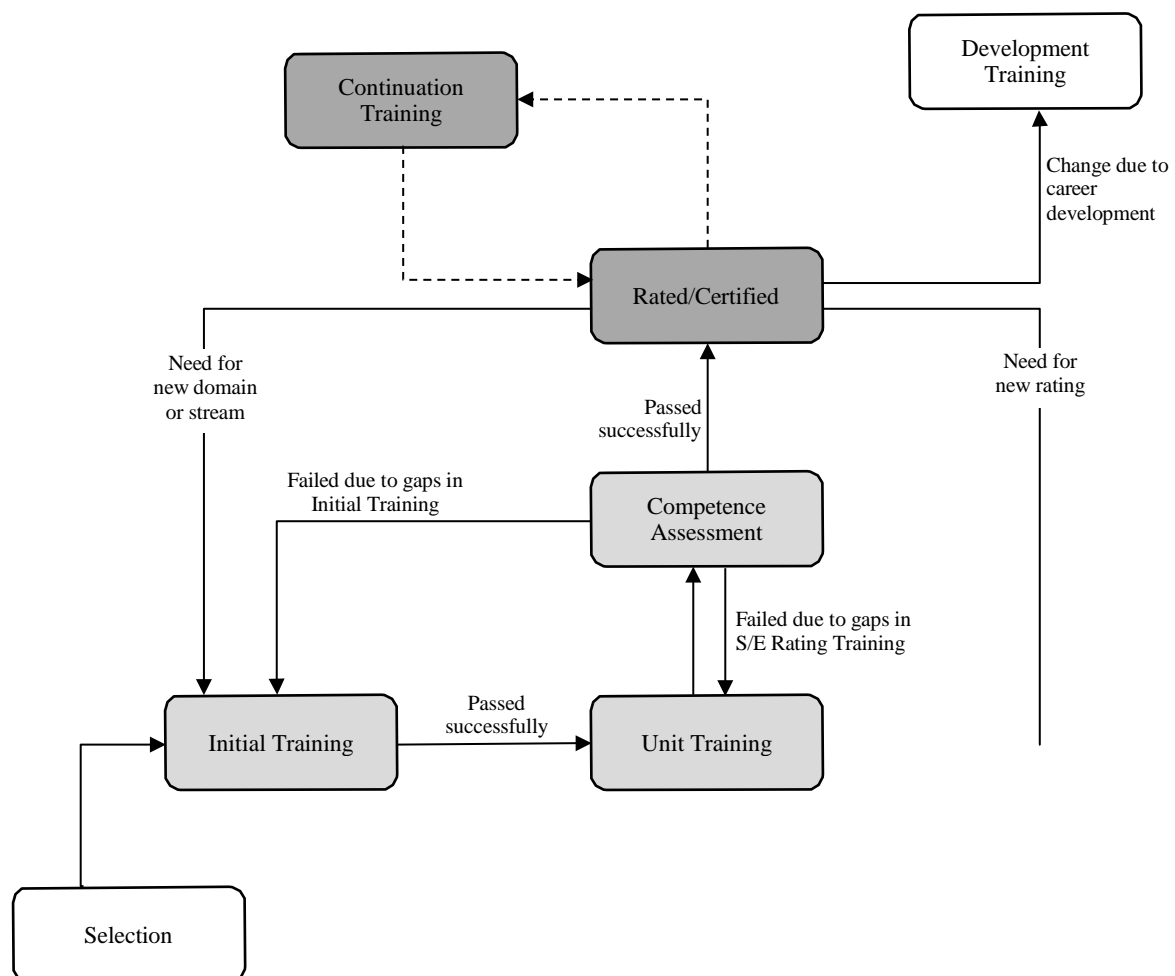

Figure 1.3: ATSEP training progression
- (1) ATSEP shall go through training at different points in their career. Typically, ATSEP will progress from the selection phase to the completion of the unit training phase. Then, they will go through the continuation training phase to maintain competency. In addition, ATSEP shall require training when:
- (2) The progression through ATSEP training is illustrated in Figure 1-3.